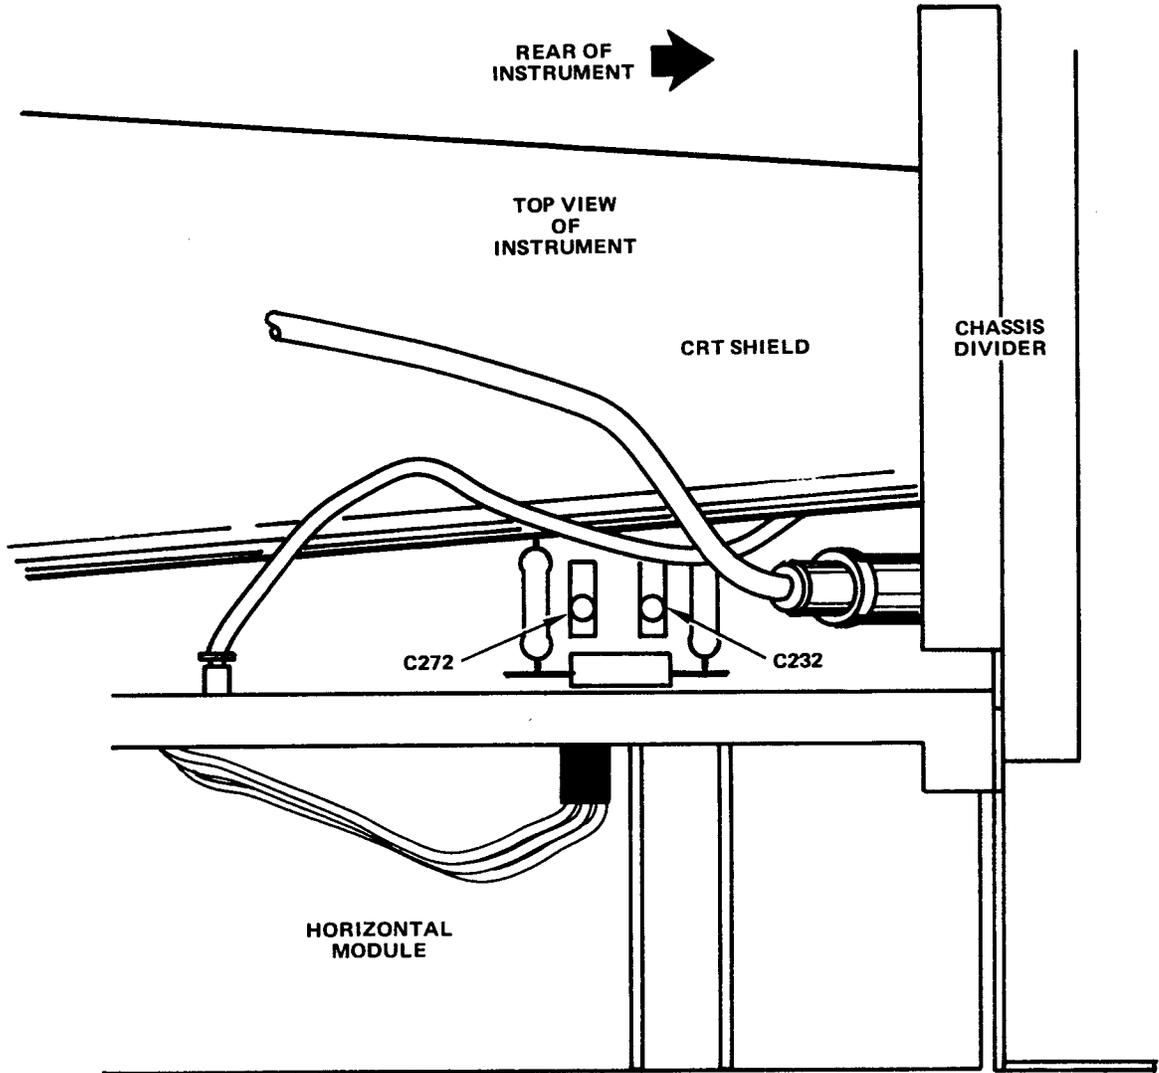

Figure 5-24. 5 nanosecond timing adjustment locations.
(11) Set DELAY TIME POS to 0.0.
(12) Continue to the next procedure.
t. 5 ns Timing (Figure 5-24).
(1) Set controls as follows: